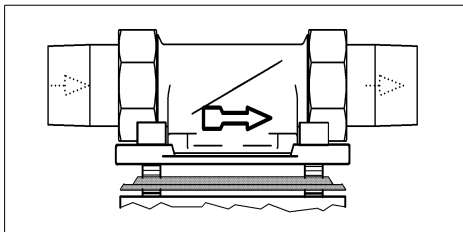

Fig. 1: Built-in rotary flange
- direction of flow (see fig. 1)
The cast in arrow of the built-in rotary flange must match the direction of flow of the water (see fig. 1).